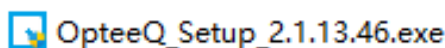

Figure 1.1 Step 1 - Double-click the setup package interface
Step 1: Double-click the "setup package", as shown in Figure 1.1.